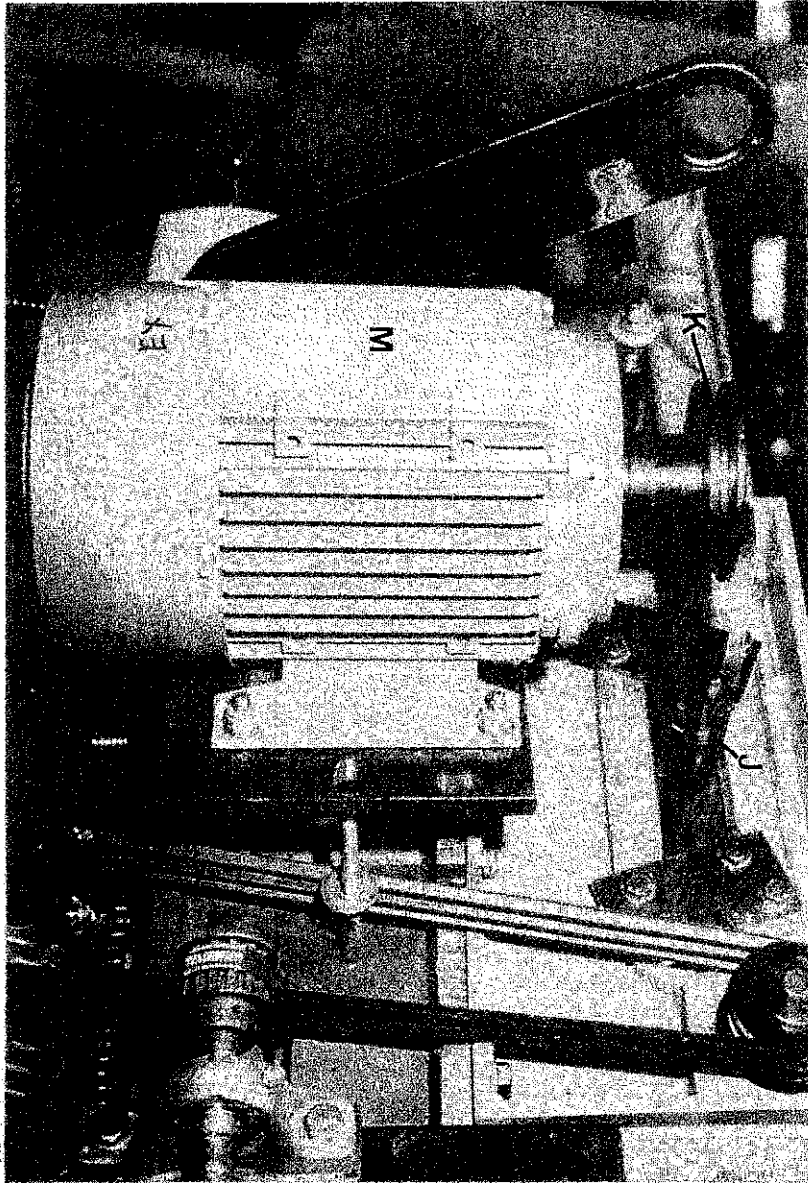

Fig 27
- 4) Remove thickener side head drive belt "J" from drive pulley "K" FIG.27.
- 6) Pivot side head drive motor "M" FIG.27 until clear of stud "L"
- 5) Remove thickener side head drive belt "J" from drive pulley "K" FIG.27.